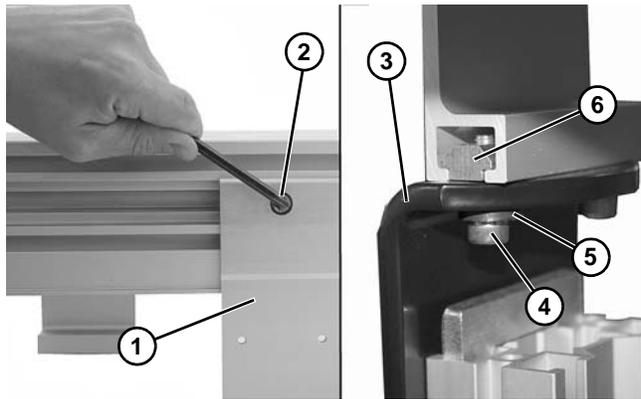

**Figure 15**
1. Insert twist nut **(Figure 15, item 1)** into conveyor center slot **(Figure 15, item 2)**. Make sure the twist nut rotates into the "locked" position **(Figure 15, item 3)** while installing mounting brackets to the conveyor in the next step.